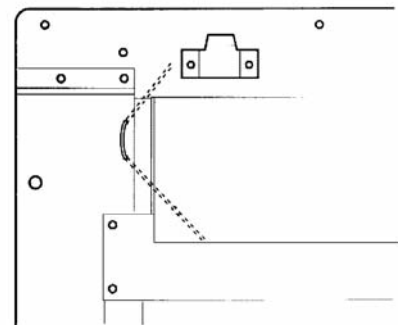

Figure 17. Upper cable retention
5. The convection box has two holes at each side of the convected air opening. Insert one end of each cable (one cable each side) from the back through the lower of the two holes and return the end through the upper of the holes (See figure 17). Give the cables a pull so that they grip against the convection box flanges.